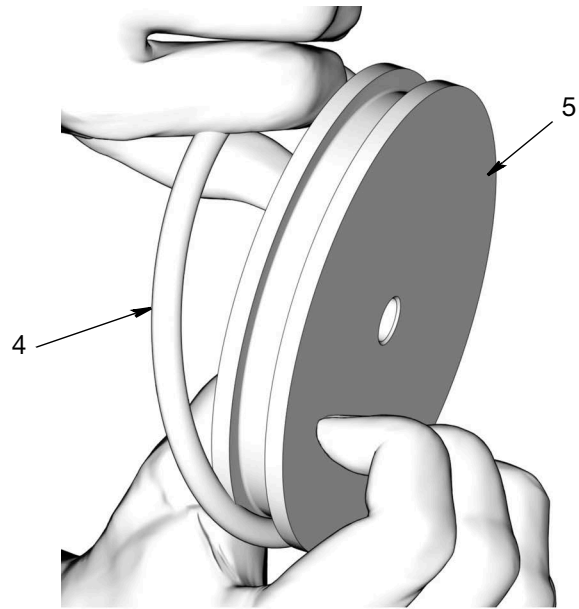

FIG. 24
24. Remove the o-ring (4) from the piston (5) (FIG. 24).